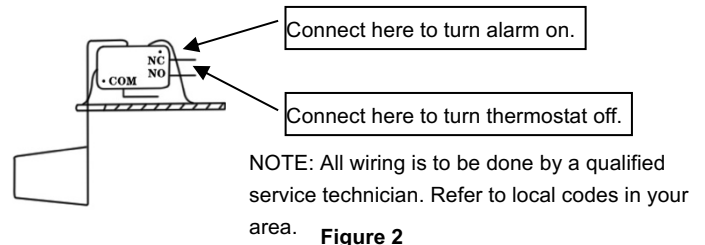

Figure 2
- Safety switch: The safety overflow switch should be connected to a class II low-voltage circuit. To control a thermostatic circuit the COM and NO connections from the safety switch are to be wired in series with the low-voltage thermostat circuit to shut down the heating/AC circuit. The COM and NC switch contacts may be used to actuate a low-voltage alarm circuit (connected in series) if the heating/cooling system cannot be disrupted. The safety switch comes from the factory with leads connected to the COM and NO switch terminals. Typical hook-up of "NC" circuits would be (Figures 2 & 3),